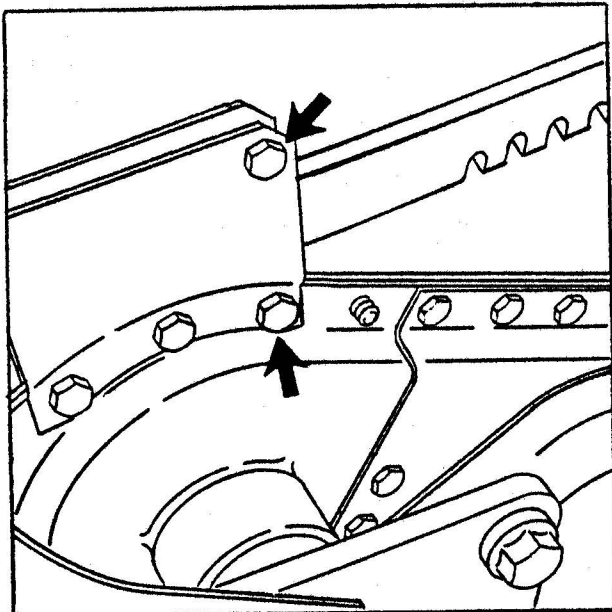

FIGURE 2: REMOVE HARDWARE INDICATED
STEP 1: Remove the depth bar retaining hardware and the tiller chain case bolt directly below it as shown in figure 2.